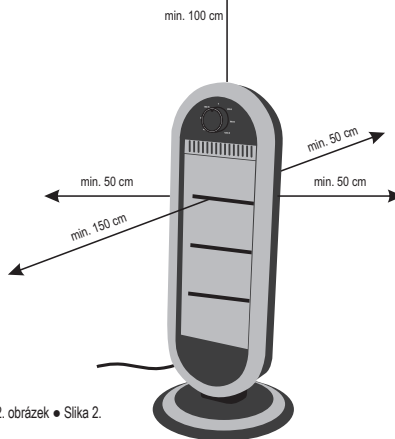

Figure 2 • 2. ábra • 2. obrázok • fig. 2. • 2. skica • 2. obrázek • Slika 2.
6. Never locate the unit directly in corners and observe the minimum mounting distances indicated in Figure 2. Always observe the health and safety regulations valid in the country of use.
- b. Unwind the power cable completely, and lead it through the centre of the base. Put the base part to the bottom of the unit. The cable holder (8) should face the rear of the appliance.
4. The free flow of warm air must be ensured for proper operation, therefore, please note the minimum installation distances indicated in Figure 2. Do not locate the appliance directly below or next to a wall outlet!
5. The operating mode switch of the appliance (3) must be set in turned off „0” position!